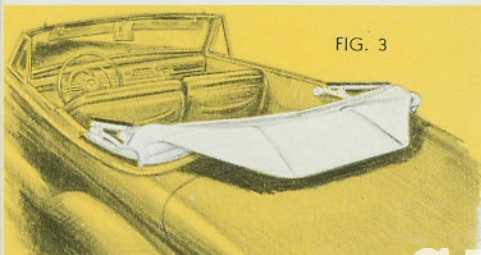

FIG. 3
5. Fold corners of top material as shown in Fig. 3, roll top material up and tuck down into top compartment, fasten hold down strap.